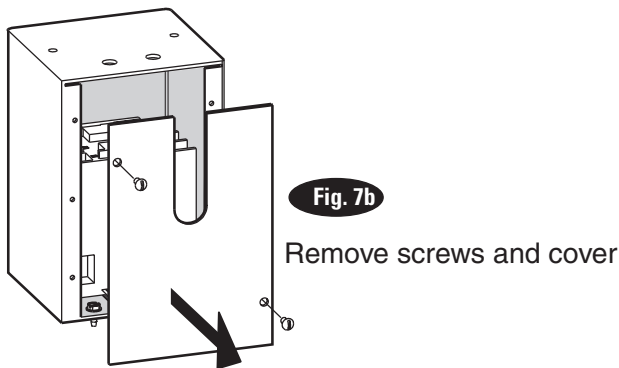
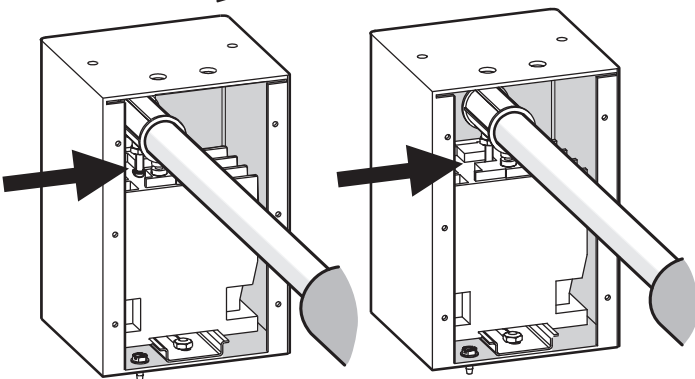

Fig. 7b
Fig. 7c
**7b. For three phase lifts with drum switch:** Remove Limit Switch cover, Fig. 7b. Insert Actuator end of Switch Bar into slot located inside Limit Switch, Fig. 7c. A small amount of silicone sealant on the lower part of the actuator will help hold it in place. Insert 1/4"-20NC x 2-3/4" HHCS through pivot hole in end of Switch Bar. **NOTE** which hole to use, Fig. 6. Then secure HHCS and Switch Bar to overhead as shown, using (2) 3/4" spacers and 1/4"-20NC Locknut. Tighten Hex bolt leaving 1/16" gap between the spacer and the overhead assembly, Fig. 6. Replace limit switch cover.